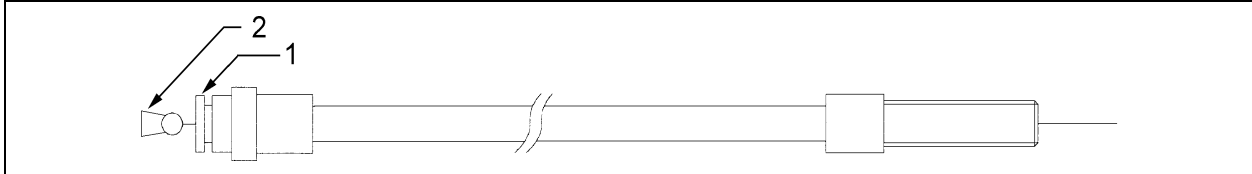
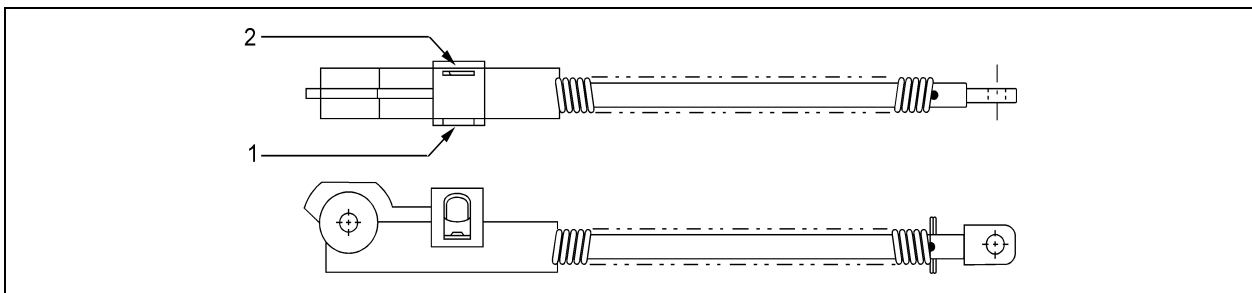

Figure 6: Cable. (1) Plate to be inserted into the cylinder's spring nut; (2) Ball end to be fixed on the cylinder.
Figure 7: Cylinder. (1) #861486 spring nut; (2) Slot.
- Install #861444 cable: partially install #861486 spring nut on the cylinder (figure 7, item 1) then insert the cable's plate (figure 6, item 1) into the spring nut. Push completely the spring nut in place. Fix the cable's ball end (figure 6, item 2) into the cylinder's slot (figure 7, item 2);
- Install #861444 cable on the cylinder: Partially fix the spring nut on the cylinder (figure 7, item 1) then insert the cable's plate (figure 6, item 1) into the spring nut. Push the spring nut completely in place. Fix the cable's ball end (figure 6, item 2) into the cylinder's slot (figure 7, item 2);